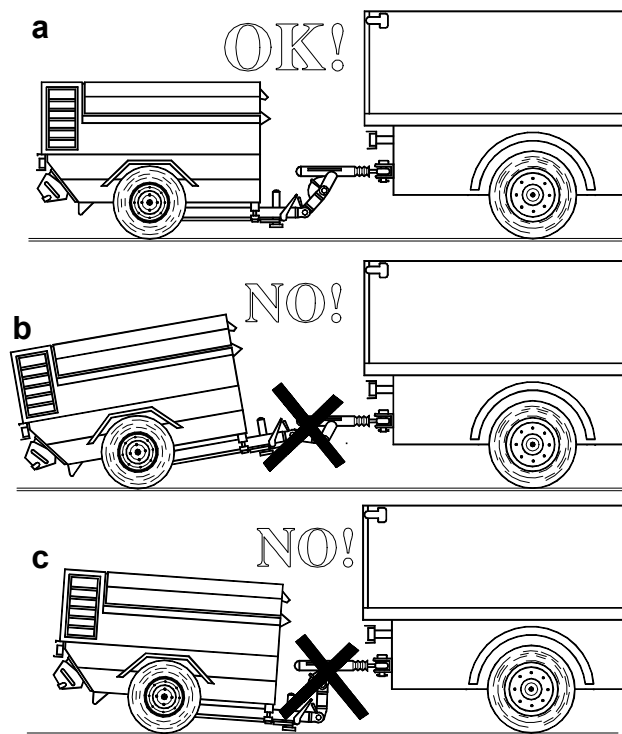

FIG. 5
-- 6.2) TOWING INSTRUCTIONS (Fig. 5) --